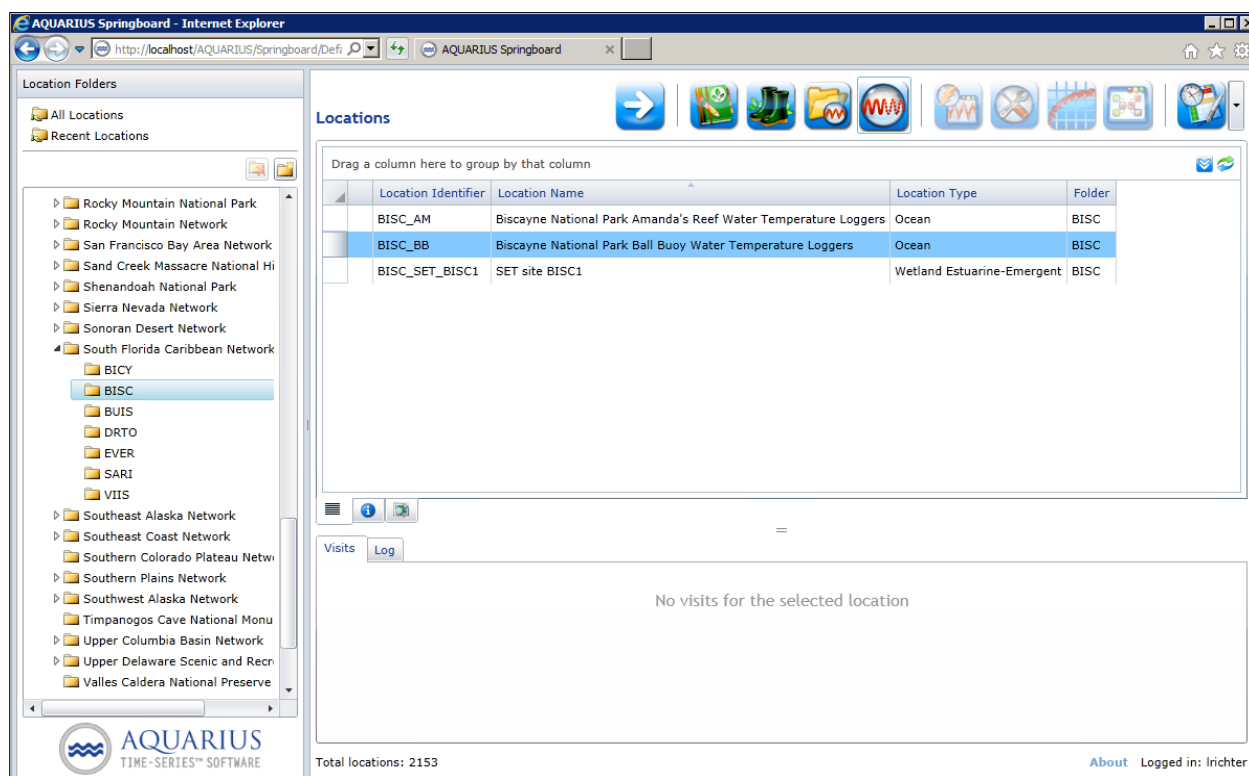

Figure 1. Screenshot showing the Aquarius Springboard interface.
1. These steps occur immediately after *.csv files are uploaded to the Aquarius database in SOP WT12 *Importing data to Aquarius Database—Version 1.0* (SFCN 2020a). Follow the steps 1–7 in SOP WT12 to open Aquarius Springboard (Figure 1). By following those steps, you should locate the folder with the data to be checked for errors and verified.